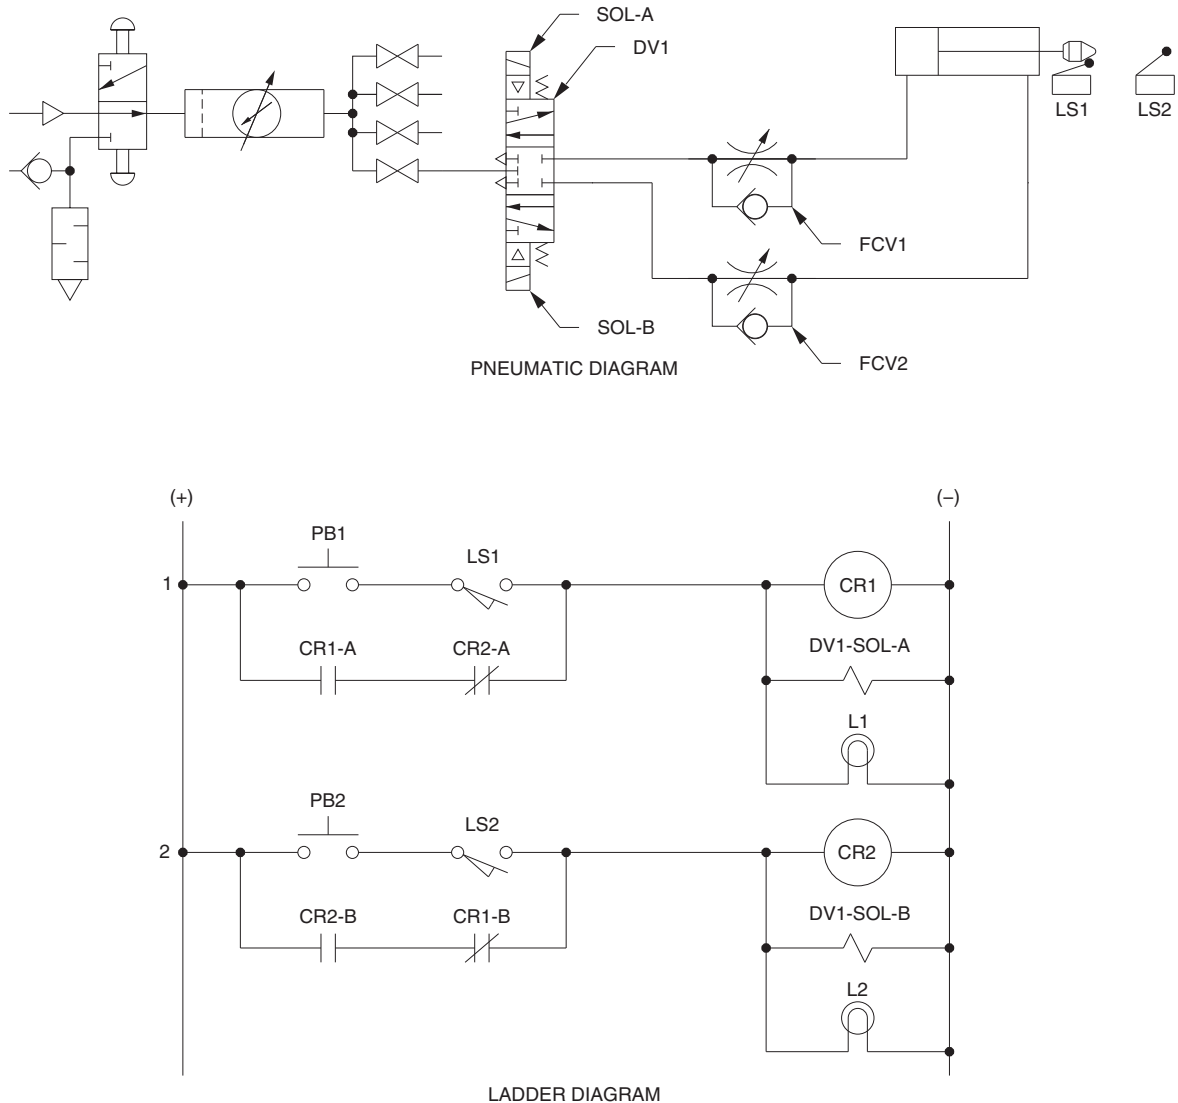

Figure 3-7. Schematic Diagram of a Priority Locking Circuit Using Limit Switches.
- 26. Connect the circuit shown in Figure 3-7. As you do this, be careful not to modify the mounting of the limit switches LS1 and LS2.
5. What are the purposes of contacts CR1-A and CR2-A in the ladder diagram of Figure 3-7?